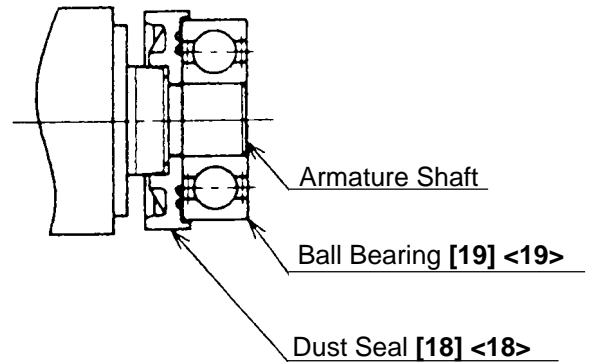

Fig. 9
- (1) Generously lubricate the teeth of Gear [22] <22> and Pinion [7] <7> with grease. Rub grease onto the teeth with your fingers so that the grease reaches each tooth bottom. Note that under-lubricated Gear [22] <22> and Pinion [7] <7> may wear at a faster rate.
(2) When replacing the Armature [14] <14> and the Ball Bearing [19] <19> on the commutator side, press inward on the Dust Seal [18] <18> while taking care of its direction until the end face of the Dust Seal [18] <18> hits against the butting surface of the Armature [14] <14> and make sure that the Dust Seal [18] <18> cannot turn freely. (See Fig. 9.)